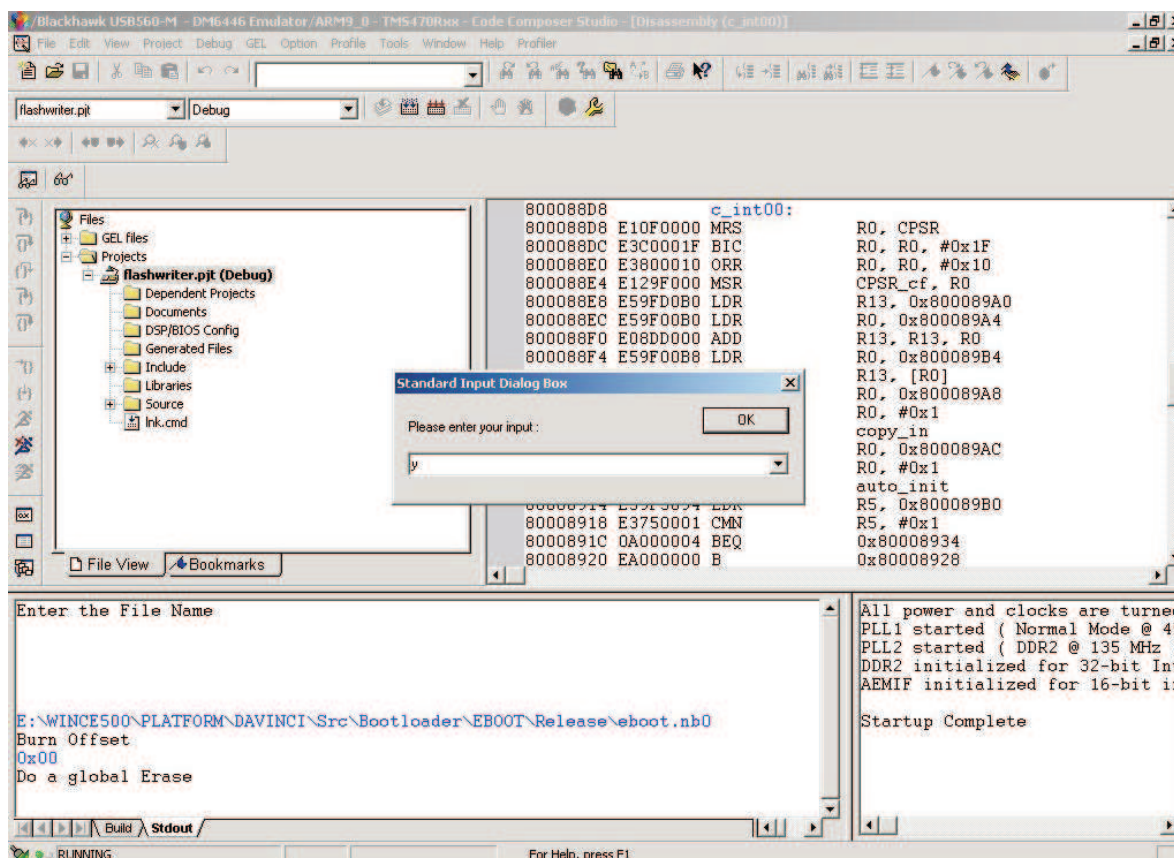

Figure 11. Code Composer Studio Program "Flash Erase" Option
Step 4. Enter Y for complete flash erase when prompted (as shown in Figure 11).